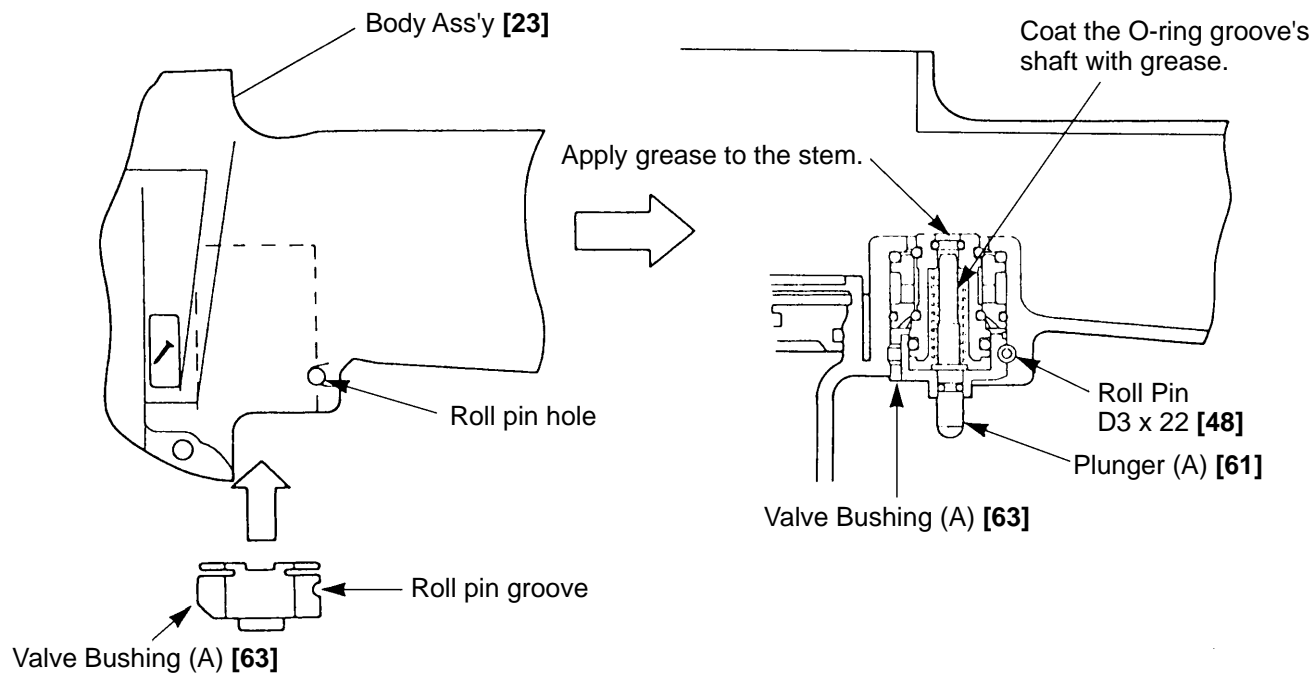

Fig. 9
- Apply sufficient grease to the O-Ring [I.D 1.8 (0.032")] [62] of Plunger (A) [61], the O-Rings [56], [58], [59] on Valve Piston (B) [57] and the stem of Plunger (A) [61] as shown in Fig. 9.
- Install Valve Bushing (A) [63] so that the roll pin groove of Valve Bushing (A) [63] is in alignment with the roll pin hole of the Body Ass'y [23] as indicated in Fig. 9. Then first insert a roll pin drawer [3 mm (0.118") dia.] into the roll pin hole and gently hammer in the Roll Pin D3 x 22 [48] after making sure that it can pass through the groove and hole.